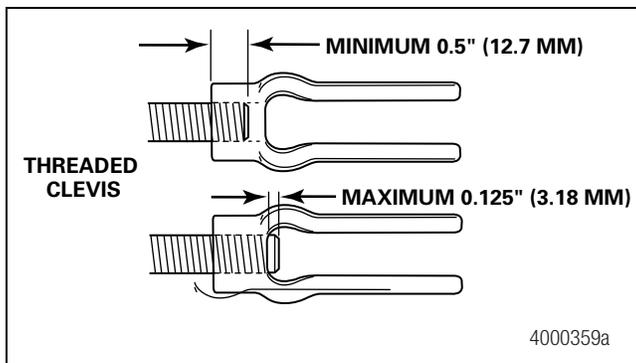

Figure 7.8
4. Verify that the thread engagement between the clevis and push rod is 0.5-0.625-inch (12.7-15.9 mm). Figure 7.8.